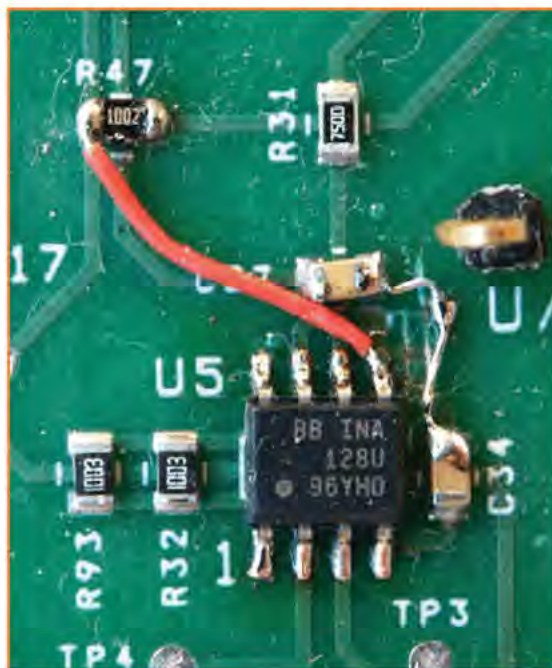

Figure 4.
- solder a 4.7 k Ω to 10 k Ω resistor between pins 9 and 11 of J17, on the opposite side of the PCB (**Figure 4**). The presence of this resistor will allow the firmware to detect the modified circuit.